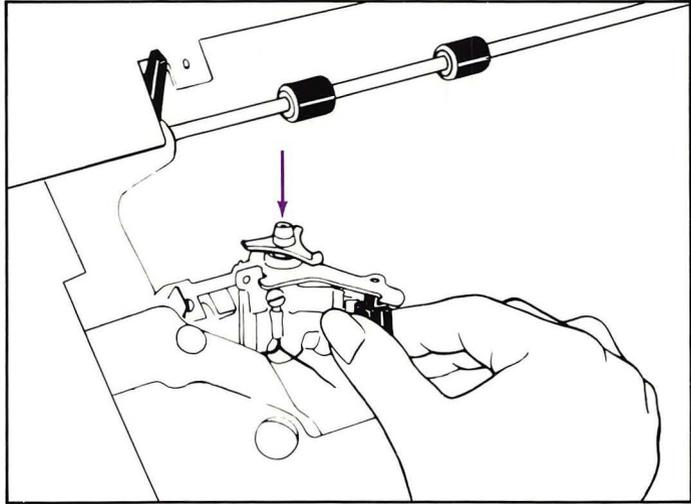

Figure 5. Releasing the Print Mechanism
3. As you squeeze the release lever toward the print hammer, pull back on the mechanism, tilting it toward you. See Figure 5.